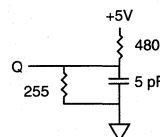

Fig. 2 OUTPUT LOAD EQUIVALENT
- t_{HZCE}, t_{HZWE} and t_{HZOE} are specified with CL = 5pF as in Fig. 2. Transition is measured ±500mV from steady state voltage.
- Output enable (OE) is inactive (HIGH).
- Output enable (OE) is active (LOW).